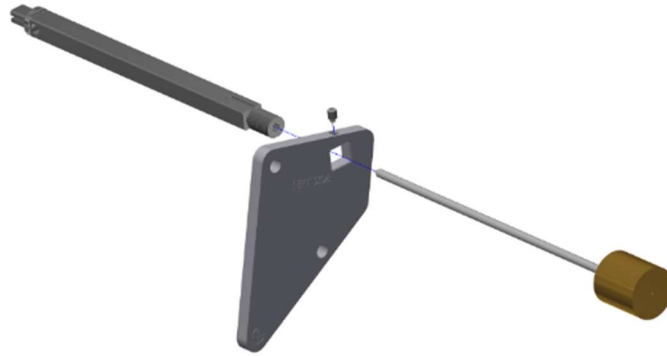

Figure 2-7. H-point tool components
2.4.2.1 Figure 2-7 shows the components of the H-point tool.